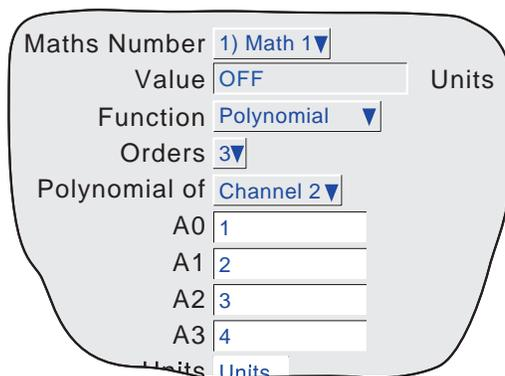

Figure 3.2.1 Polynomial configuration fields (3rd order)
$A_0 + A_1(X) + A_2(X^2) + A_3(X^3) + A_4(X^4) + A_5(X^5) + A_6(X^6) + A_7(X^7) + A_8(X^8)$  where X is the value of the source channel and A0 to A8 are constants. Figure 3.2.1 shows the configuration items for a third order fit with channel 2 used as the source (X), and A0 = 1, A1 = 2, A2 = 3 and A3 = 4.